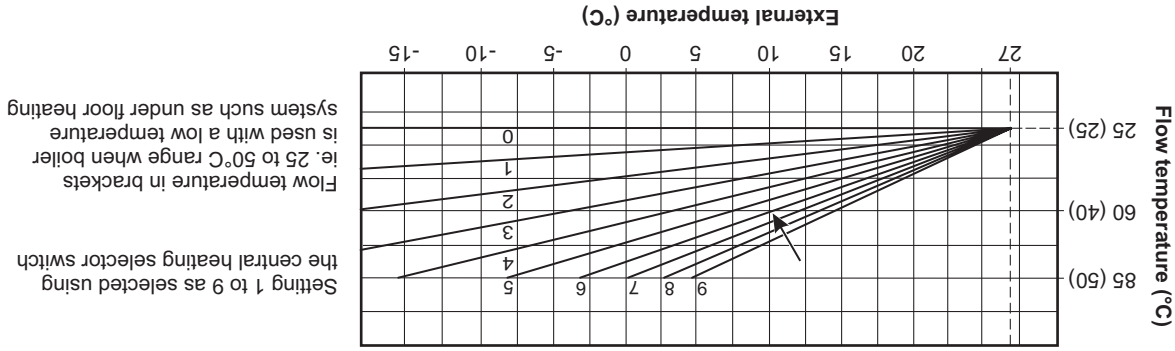
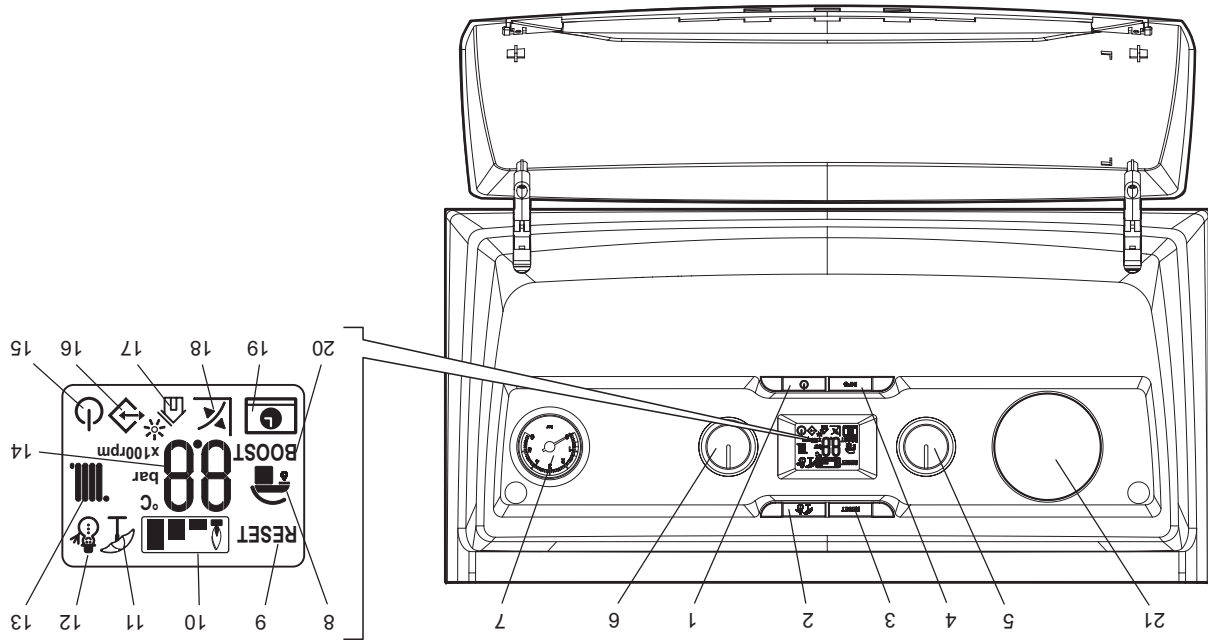

Fig. 2 - External weather compensation probe fitted
Fig. 1
If a fault occurs a fault code will be displayed in the LCD display screen (item 14 in Fig. 1), indicated with an alternating flashing E followed by the fault code. A list of fault codes are given in the table below.
Press the reset button (item 3 in Fig. 1) on the control panel to restart the boiler if the fault occurs again, make a note of the fault code and contact your installer or Alpha technical Helpline for further advice.
By pressing the info button (item 4 in Fig. 1) the information menu is accessed this will then show the information according to the table below.
On - In this mode the boiler can be switched between 'Summer' or 'Winter' settings by pressing the Summer/Winter button (item 1 in Fig. 1).
The temperature of the hot water to the taps can be adjusted by turning the hot water selector switch (item 5 in Fig. 1) to the required value shown on the display in °C.
The temperature of the central heating water can be adjusted by turning the central heating selector switch (item 6 in Fig. 1). When the heating is on the temperature of the water leaving the boiler to the radiators will be displayed.
If an external weather compensation probe is fitted, indicated by the  symbol (item 18 in Fig. 1) in the display, it will automatically vary the temperature of the water in the radiators and on a mild day the radiators will not feel as hot as on a cold day, this is normal and not a fault with the boiler or heating circuit. The room temperature will still be maintained as set by the room thermostat.
When an external weather probe is fitted, the central heating selector switch (item 6 in Fig. 1) will no longer adjust the flow temperature in °C, instead the display will show a scale of 1 to 9. Each number corresponds to a line on the graph in Fig 2 i.e. line 6 will give a flow temperature of 60°C when the external temperature is 10°C.
The boiler controls are located on the control panel behind the hinged cover. Make sure the heating system is filled and the needle on the pressure gauge (item 7 in Fig. 1) is in the green band when cold. If incorrect refer to Section 4.
Switch the boiler on at the mains supply socket switch. The boiler will automatically go through a system purging operation for 8 minutes; this is indicated by a count down on the display starting from 96. During this operation the pump will turn on and off to help remove any air that may be trapped in the heating system. If the boiler has already been commissioned by the installer then this operation can be terminated by pressing the reset button (item 3 in Fig. 1).
By pressing the On-Off button (item 1 in Fig. 1) the Standby or On mode can be selected, or press and hold the On-Off button for eight seconds to turn the boiler off.